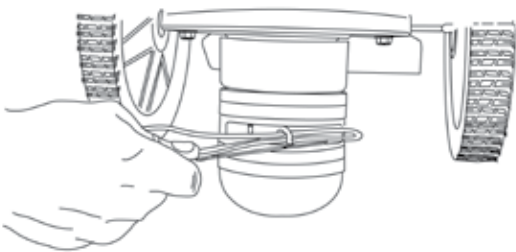

Figure 12
3. Pull the ends of the cord under the loop and push the loop up into the line cord ends plate groove above them (see Figure 12) and then pull the ends tight.